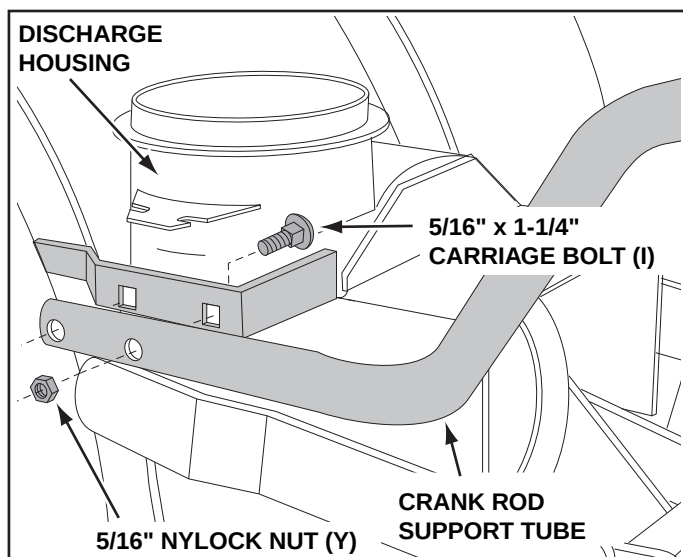

FIGURE 49
STEP 50: (SEE FIGURE 49)
- Assemble the crank rod support tube to the bracket on the left side of the discharge housing using two 5/16" x 1-1/4" carriage bolts (I), and 5/16" Nylock nuts (Y).